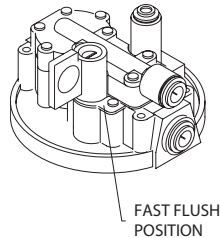
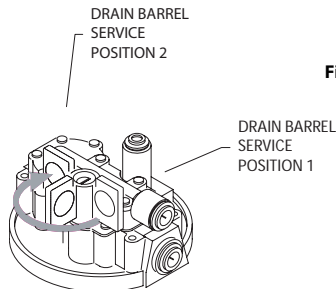

Figure 3
Figure 4
- Open the R.O. faucet and position the drain barrel in the fast flush position (see figure 3).
- Once the air has been purged from the system, position the drain barrel in 1 of the 2 service positions (see figure 4). The storage tank will continue to fill with water.
The storage tank should be drained and the system should be fast flushed 1 to 2 times per week. To drain the storage tank, open the R.O. faucet and let the water run until the flow turns into small drips. Close the R.O. faucet and rotate the drain barrel 90° to the fast flush position(see figure 3).The sound of rushing water should now be heard. Allow the system to fast flush for 5 to 7 minutes and then rotate the drain barrel to position#2 (see figure4).
5. Once assembled, open the flush valve (see figure 3 on page 6).